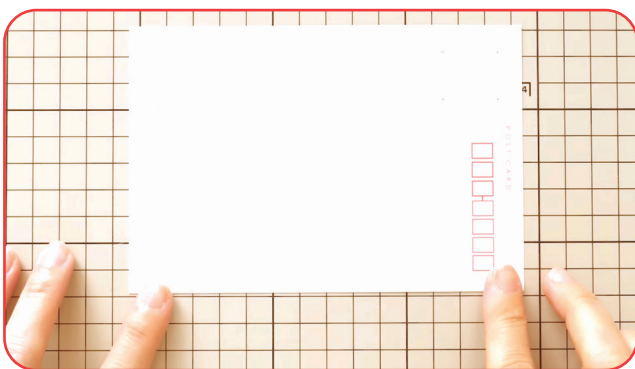

Figure 1.2: Thick Paper of about 1mm.
- Obtain a thick paper of about 1mm thickness and dimensions of 10 x 10 cm (Fig. 1.2).